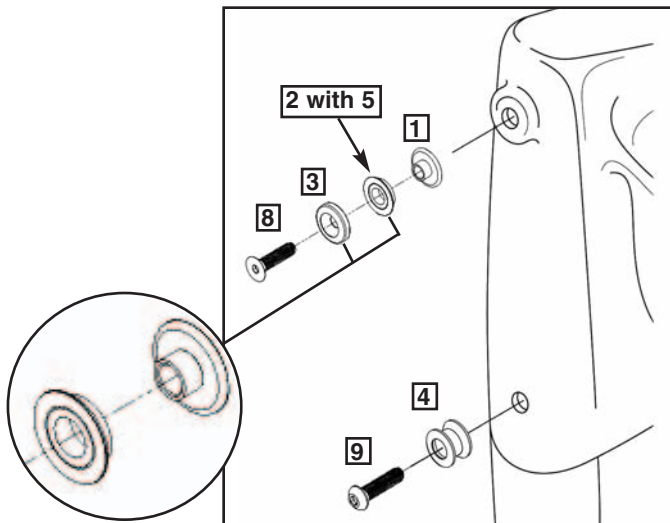

Figure 2
3. Assemble upper and lower spools as indicated in **figure 2**. **Leave loose. (3/16" Hex)**